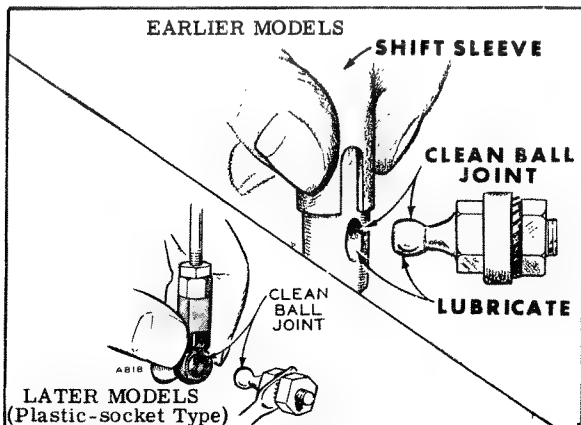

Fig. 14 Governor Linkage Lubrication
**GOVERNOR LINKAGE.** - Lubricate the linkage ball joints, figure 14, with powdered graphite (preferably), or light, non-gumming lubricating oil. Do not lubricate type with plastic socket.
D. - GOVERNOR LINKAGE. Use lubricating graphite on metal ball joints (figure 14). If graphite is not available, use a light non-gumming lubricating oil. Later models have plastic socket type ball joint and does not require lubrication.